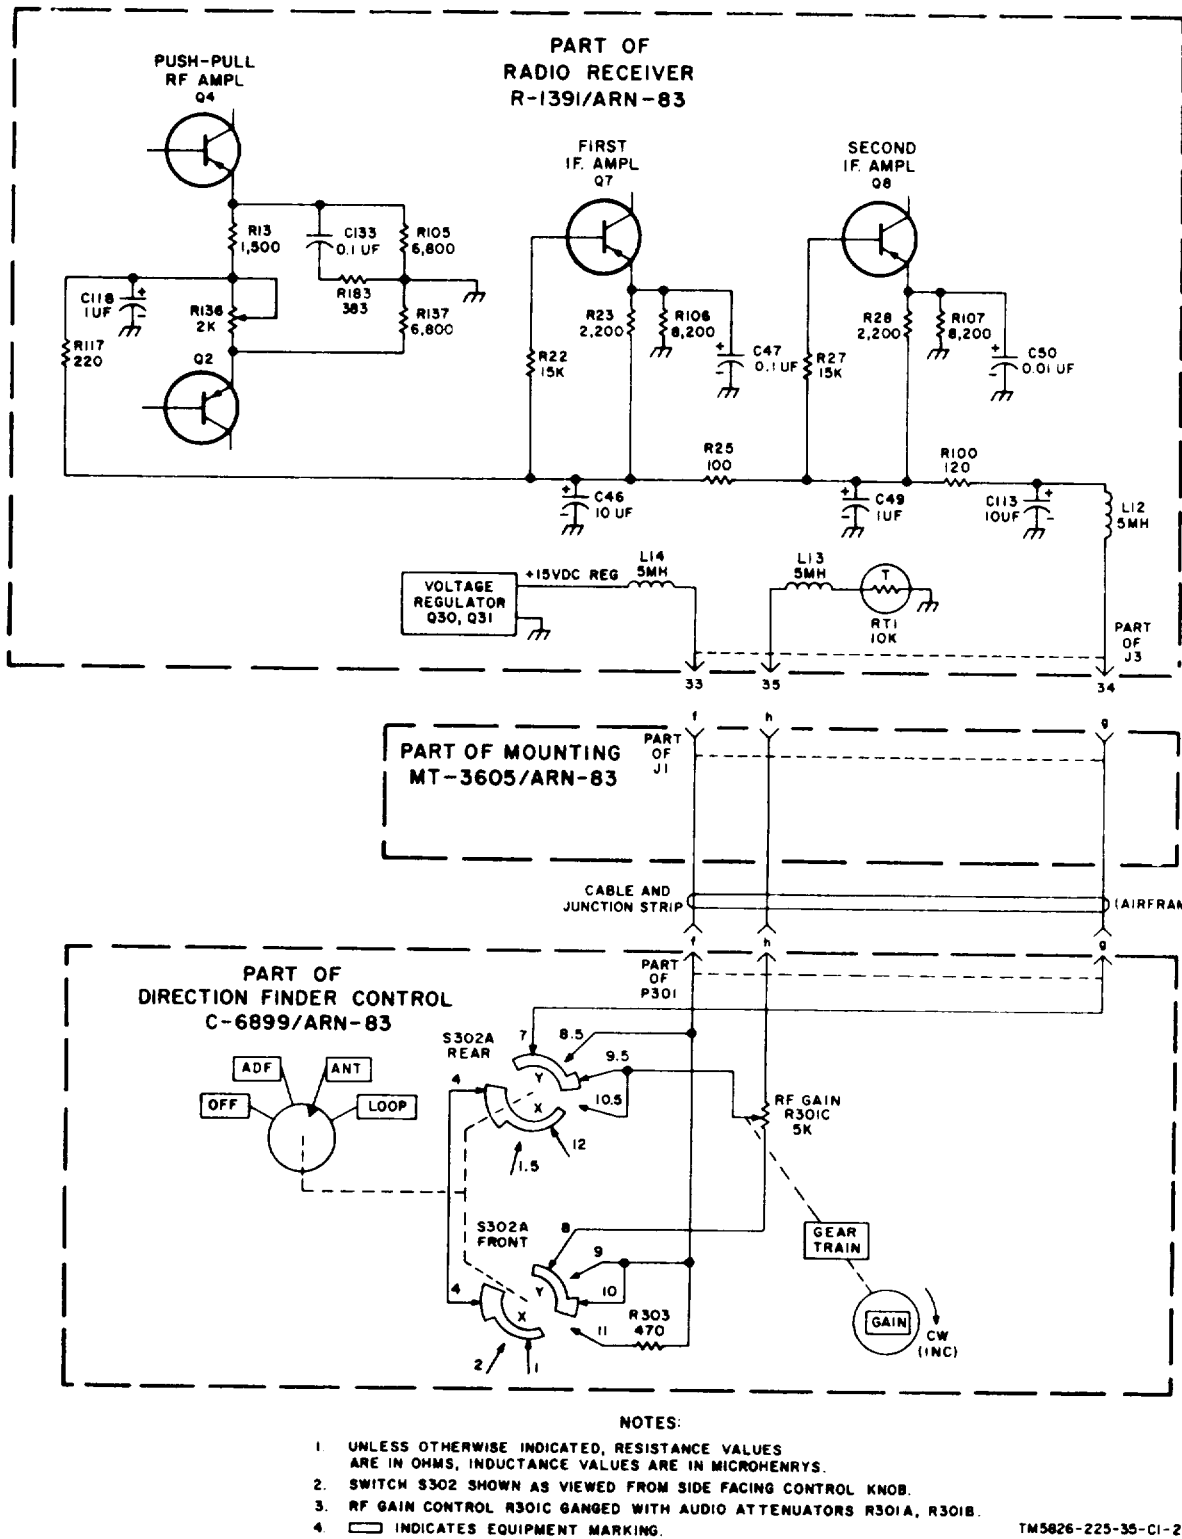

Figure 1-17. Manual RF gain control system, schematic diagram.
b. *Manual RF Gain Control Circuit (fig. 1-17).* In antenna and manual direction finding mode, only RF gain can be varied manually. This is accomplished by varying the bias on two IF amplifier stages and on the push-pull RF amplifier. An increase in positive bias voltage decreases gain. When function switch